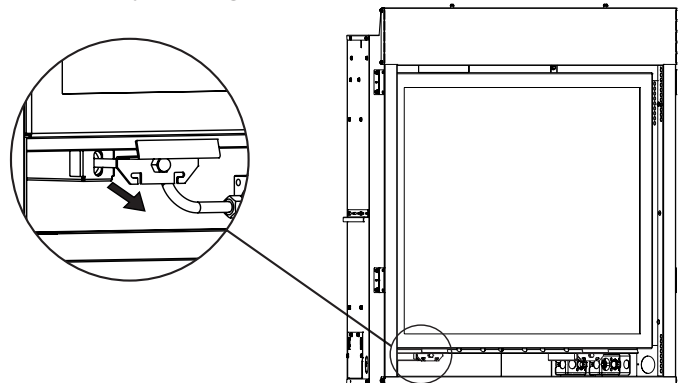

Figure 5
2. Pull outward to release both latches at bottom of firebox assembly. See Figure 5.
22. Reinstall the glass frame removed in steps 2 and 3. **See Figures 5 and 6.**